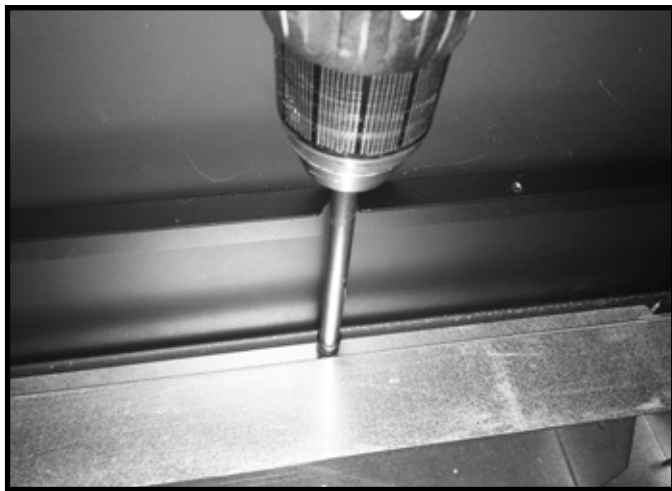
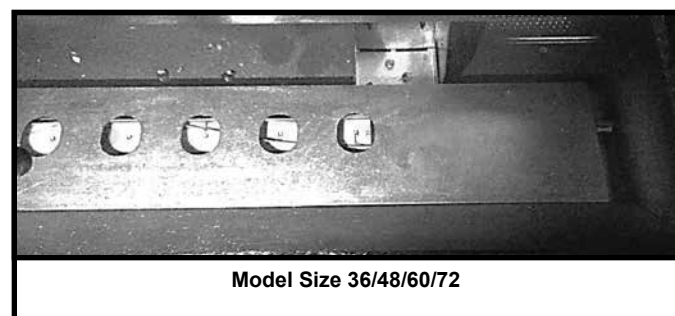

Figure 2. Remove Screws on Bottom Glass
Figure 3. LED Tray Assembly in Position
12. Remove the eight screws that secure the glass window. Remove the bottom glass. See Figure 2 and Figure 3. Handle with care.